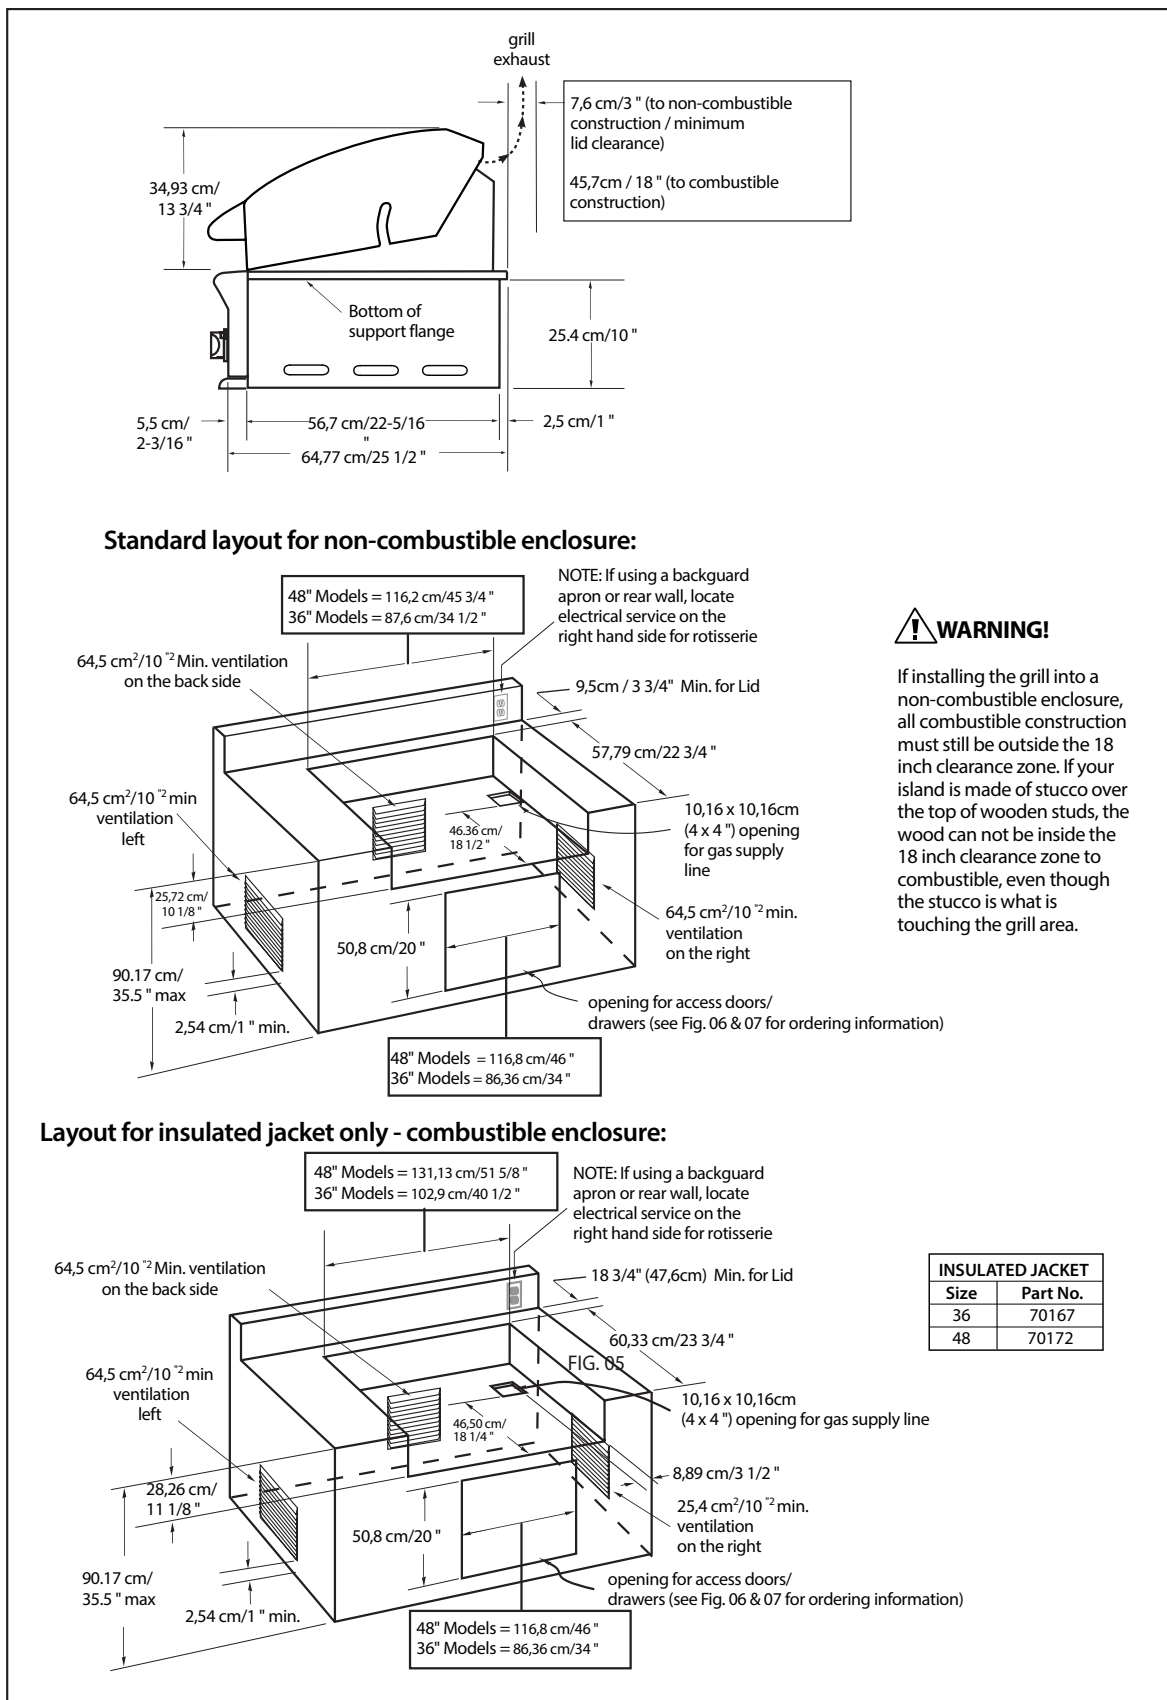

FIG. 05
It is required that a minimum of (3) 10 sq. inches / 64,5cm² of ventilation opening be provided for both the left and right sides, as well as the back of enclosure (Fig. 05), in order to safely dissipate unburned gas vapors in the event of a gas supply leak.
Note specific built-in enclosure ventilation requirements. See text and Fig. 05.
The grill is designed for easy placement into built-in masonry enclosures. For non-combustible applications the grill drops into the opening shown in Fig. 05 and hangs from its side flanges. A deck is not required to support it from the bottom. When using the insulated jacket in a combustible enclosure application, see the bottom of Fig. 05. The insulation jacket assembly must be supported from the bottom by a ledge on each side and back or a solid deck.
If the grill is to be placed into a combustible enclosure, an approved insulated jacket is necessary. Insulated jackets are available from your dealer. Use only the DCS insulated jacket which has specifically been designed and tested for this purpose. Review the detail drawing shown (Fig. 05) and take into account the provisions shown for gas line hook-up clearance in the right rear corner. It is required that ventilation holes are provided in the enclosure to eliminate the potential build-up of gas in the event of a gas leak. The supporting ledges or deck must be level and flat and strong enough to support the grill and insulated jacket. The counter should also be level.